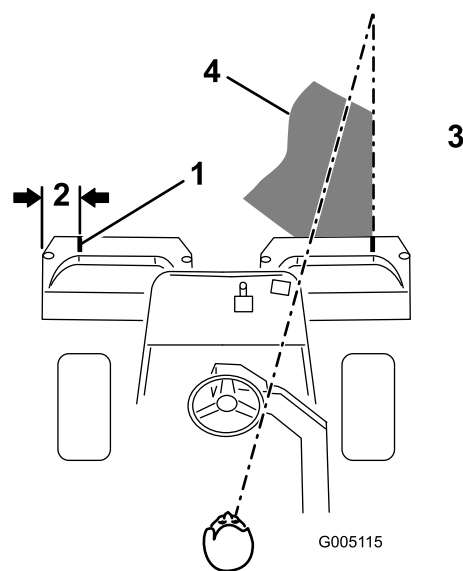
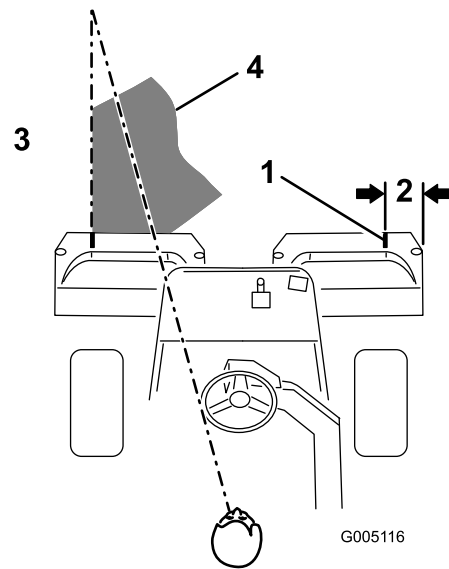

Figure 39
Figure 40
2. Either place a strip of white tape or paint a line onto each basket paralleling the outer edge of each basket (Figure 39).
3. Overlap a minimal amount with the previous cut on return passes. To assist in maintaining a straight line across the green and keep the machine an equal distance from the edge of the previous cut, establish an imaginary sight line approximately 6 to 10 ft (1.8 to 3 m) ahead of the machine to the edge of the uncut portion of the green (Figure 39 and Figure 40). Some find it useful to include the outer edge of the steering wheel as part of the sight line; i.e. keep the steering wheel edge aligned with a point that is always kept the same distance away from the front of the machine (Figure 39 and Figure 40).